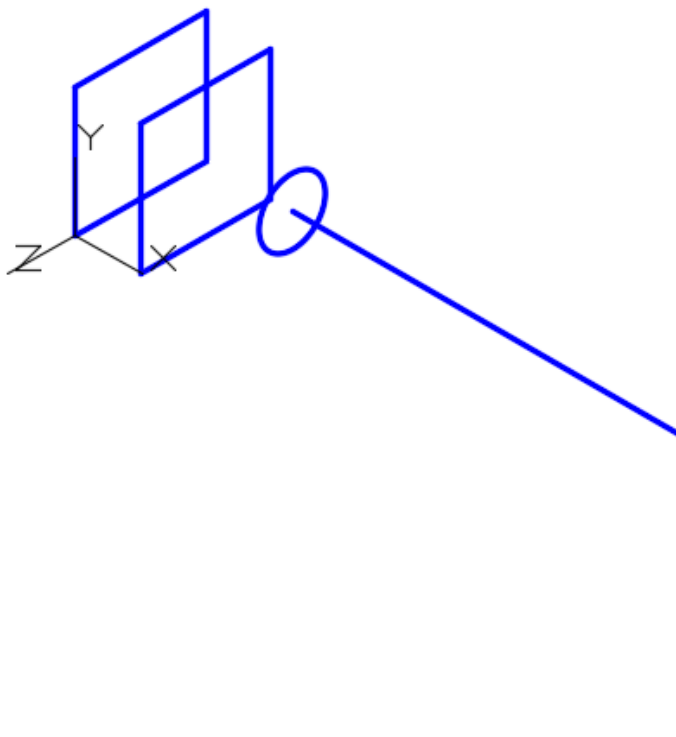

Figure Step 10
Step 10 Draw a pline 36 inches in the positive X direction and then 24 inches in the negative Y direction. Start it at the center of the circle. (Figure Step 10)